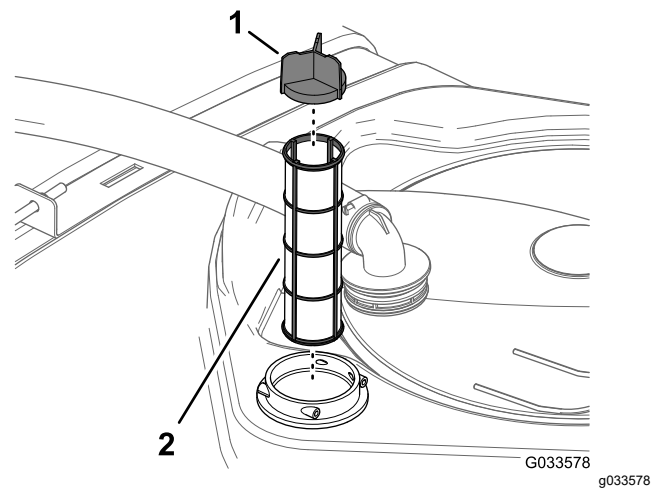

Figure 54
4. Remove the old suction filter from the filter housing in the tank (Figure 54).